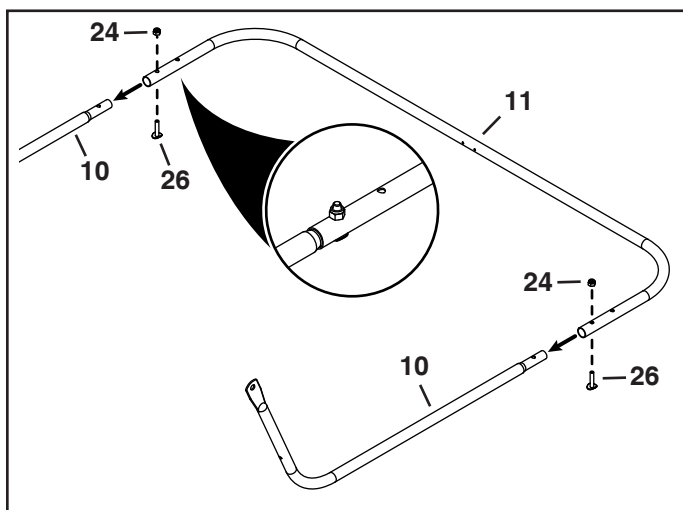

FIGURE 8
12. Install a rear hopper tube (11) onto the ends of the lower hopper tubes (10) making sure the holes in the rear hopper tube are facing up as shown in figure 8.
13. Secure the rear hopper tube (11) to the lower hopper tubes (10) with two 1/4" x 1" curved head bolts (26) and 1/4" nylock nuts (24). See figure 8.